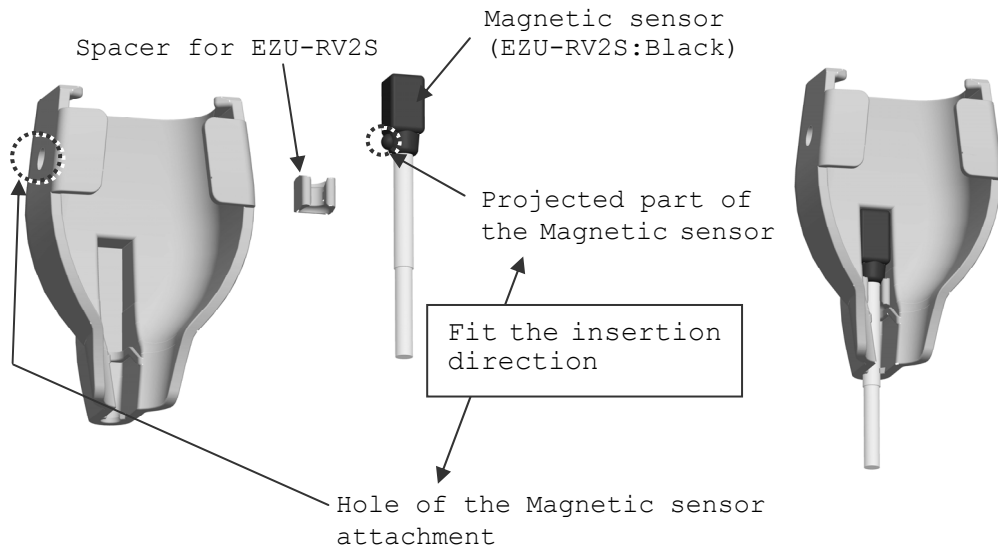

Fig. 4 How to attach the Magnetic sensor
- b) Insert the magnetic sensor (EZU-RV2S) into the magnetic sensor attachment with the correct direction as shown in Fig. 4.